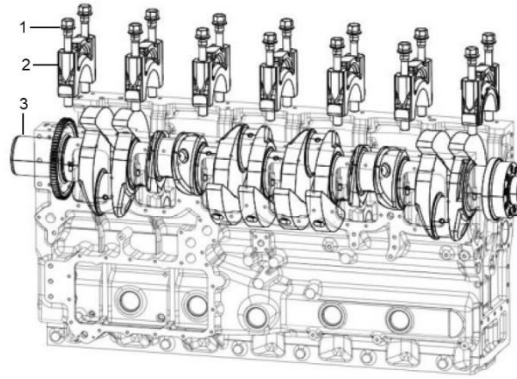

Figure 111.
6. Reinstall new main bearing and thrust plates in the main bearing caps (Figure 111, Item 2).
7. Reinstall the main bearing caps (Figure 111, Item 2).
8. Apply a light coat of clean engine oil to the bearing cap main bolts (Figure 111, Item 1).